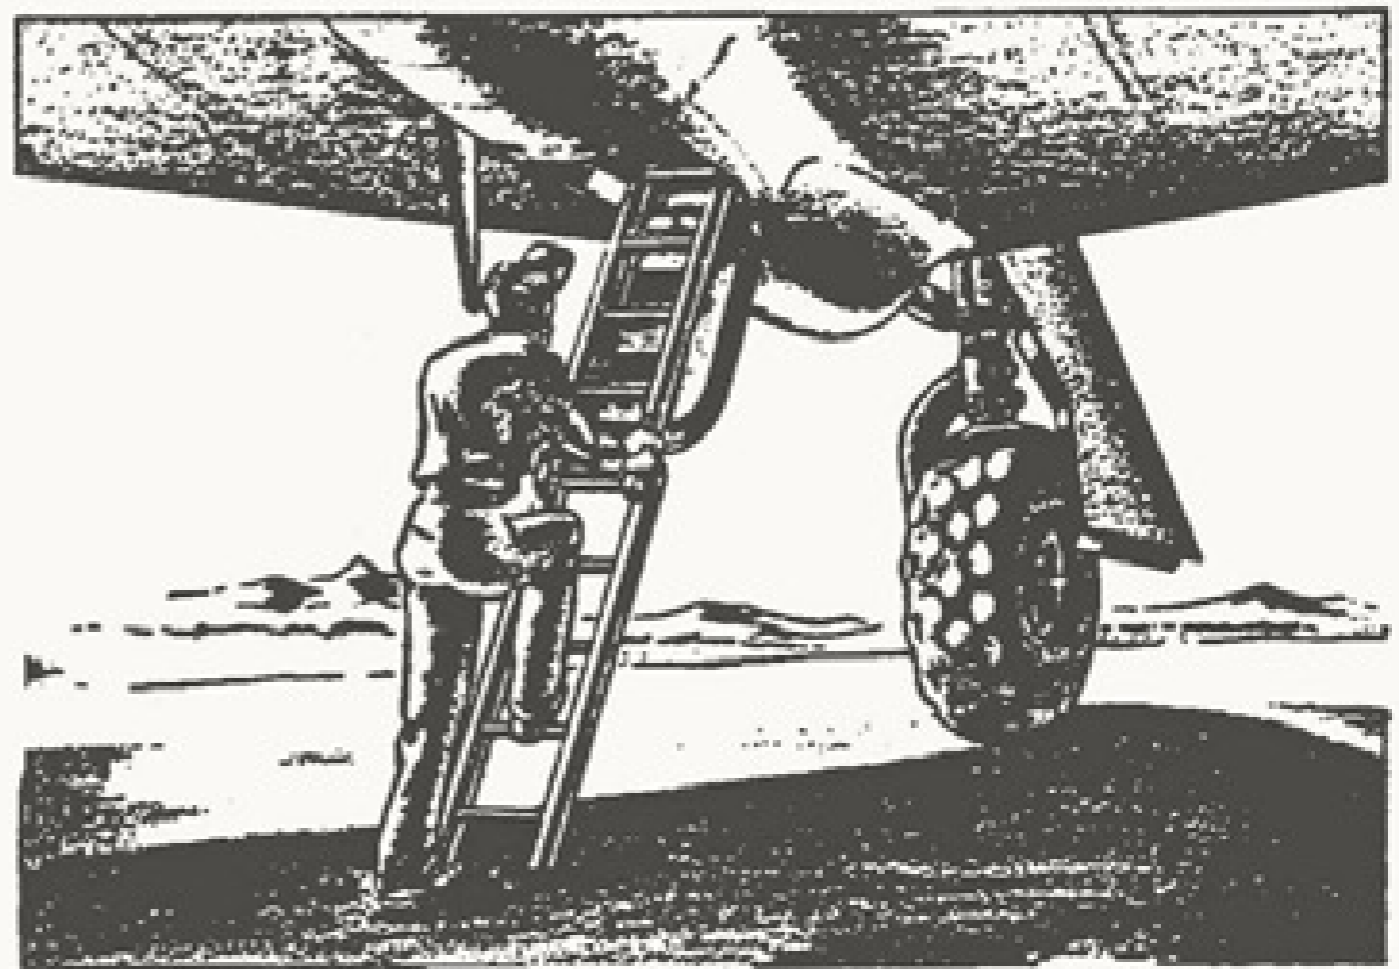

Figure 1. Entrance
56. ESCAPE HATCHES. (See Section IV, figure 1.)
(1) See that the airplane is headed into the wind.	(1) Check all seams for apparent fluid leaks	(1) See that the engine sections have been inspected.
(2) Check the condition of the tires and shock struts. See that the wheels are chocked.	(2) See that the wings are free of ice, snow, frost, oil or heavy accumulations of dust.	(2) Check for servicing-fuel tanks, oil tanks, hydraulic reservoirs, landing gear bungees, and nose gear steering and brake accumulator.
(3) See that ground crew personnel are stationed at the nose gear with earphones and microphones plugged in.	(3) Check control surfaces for damaged skin or fabric.	(3) See that all dust covers have been removed.
(4) See that the ground crew has an extinguisher with a special nozzle connected to No. 1 engine blower section connection. (See paragraph 50, Section I.)
d. **ENTRANCE TO THE AIRPLANE.** (See figure 1.)- The main entrance hatch is located in the bottom center of the crew nacelle. Turn the handle at the center of the door to the right and lower the door, then place the ladder against the door.